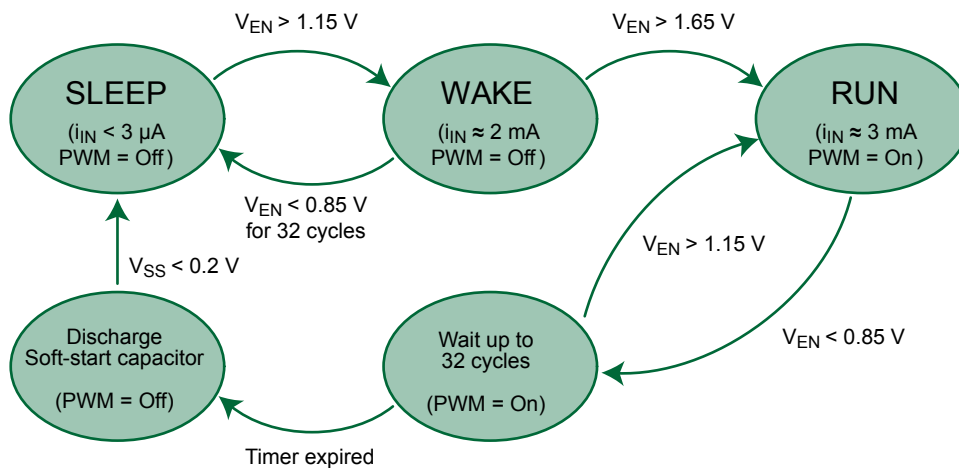

Figure 3. EN/SYNC voltage and A8583 operating modes
- A simple logic input. If EN/SYNC is a logic low ( $V_{EN/SYNC} < V_{ENIL}$ ), then the A8583 and  $V_{OUT}$  will be off. If EN/SYNC is a logic high ( $V_{EN/SYNC} > V_{ENIH}$ ), the A8583 will turn on and, provided there are no fault conditions, soft start will be initiated and  $V_{OUT}$  will ramp to its final voltage in a time set by the soft start capacitor (CSS). (The operating modes of the A8583 based on EN/SYNC voltage are summarized in figure 3.)
The A8583 protects itself from over-heating, with an internal thermal monitoring circuit. If the junction temperature exceeds the upper thermal shutdown threshold ( $T_{TSD}$ , nominally 165°C) the voltages at the soft start and COMP pins will be pulled to GND and both the upper and lower MOSFETs will be shut off. The A8583 will stop PWM switching and stay in WAKE state (see figure 3). It will automatically restart when the junction temperature decreases more than the thermal shutdown hysteresis ( $T_{TSDHYS}$ , nominally 20°C).